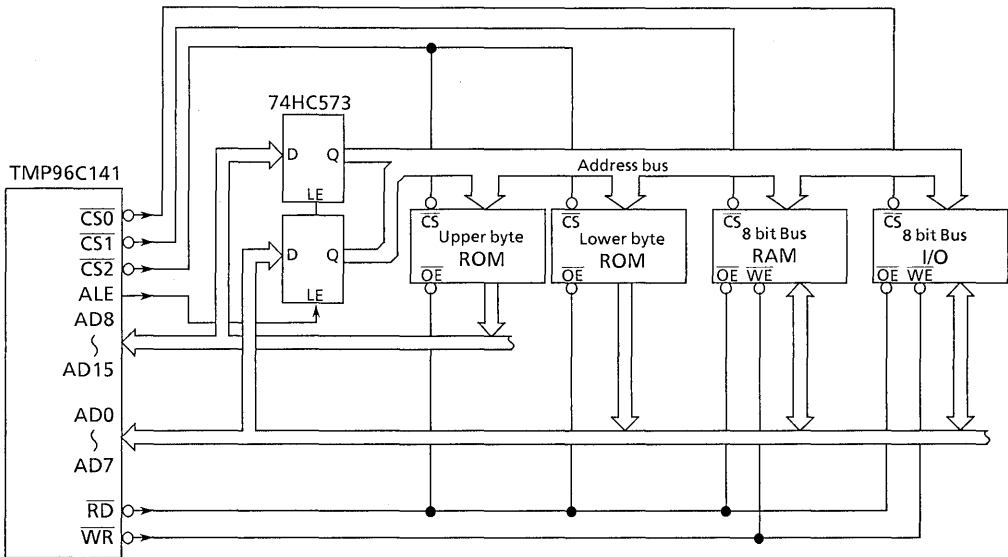

Figure 3.6 (1) Example of External Memory Connection (ROM = 16 bits, RAM & I/O = 8 bits)
Figure 3.6 (1) is an example in which an external memory is connected to the TMP96C141. In this example, a ROM is connected using 16 bit Bus; a RAM is connected using 8 bit Bus.